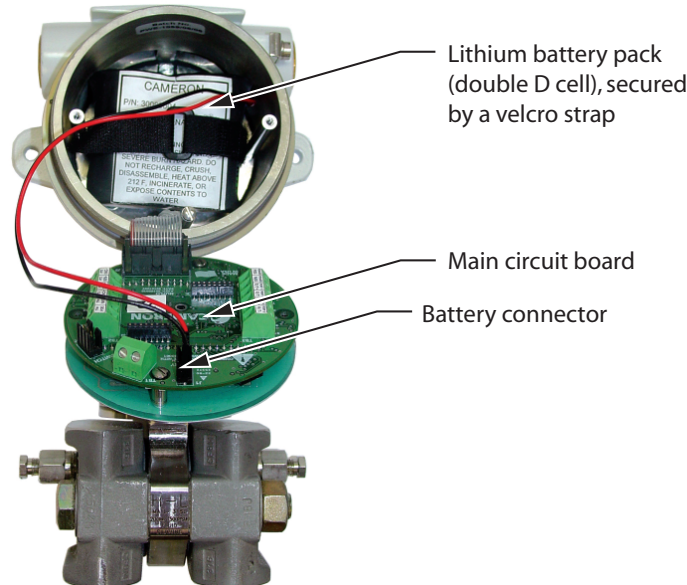

Figure 1.5— Scanner 2000 microEFM, internal view
- The internal lithium battery pack supplied with each Scanner 2000 (shown in Figure 1.5)